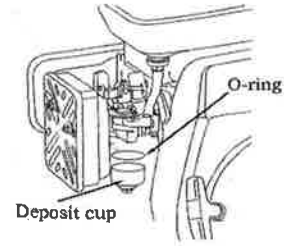

Fig. 16
4. WASHING OF DEPOSIT CUP (Fig. 16)